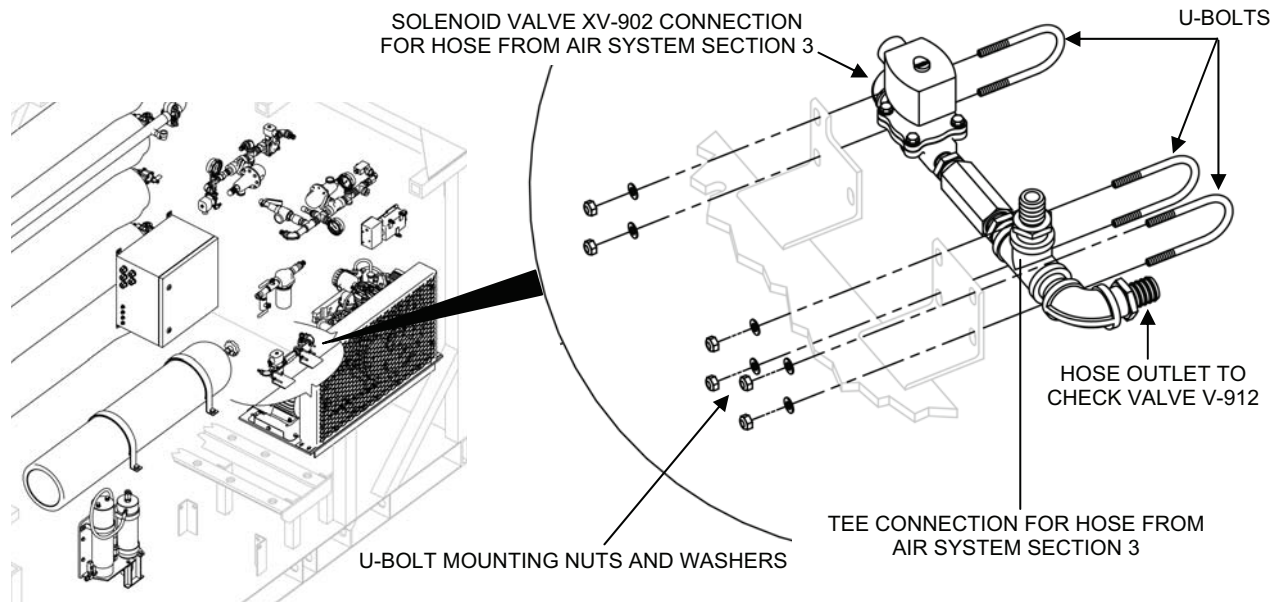

Figure 7. Air System Section 4 Assembly.
2. Remove the Air System Section 4 assembly as follows (see Figure 7):
4. Install the new Air System Section 4 assembly onto the TWPS as follows (see Figure 7):